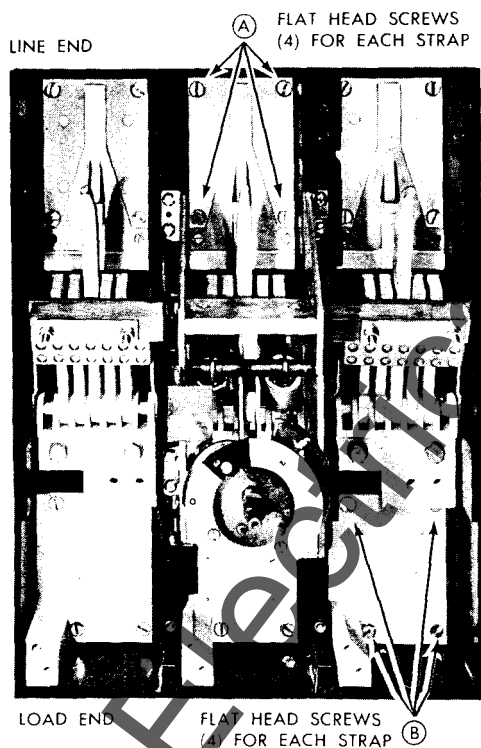

Figure 3
- 20) Remove 4 Flat Head Screws (A), Figure 3, from each pole strap.
- 22) Remove 4 Flat Head Screws (B), Figure 3, from each pole strap.